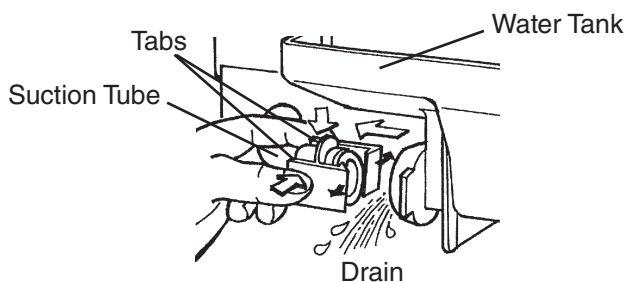

Fig. 36
- 3) Inside the ice storage bin, disconnect the suction tube by squeezing the tabs and pulling the tube clear. See Fig. 36. Allow the water tank to drain.